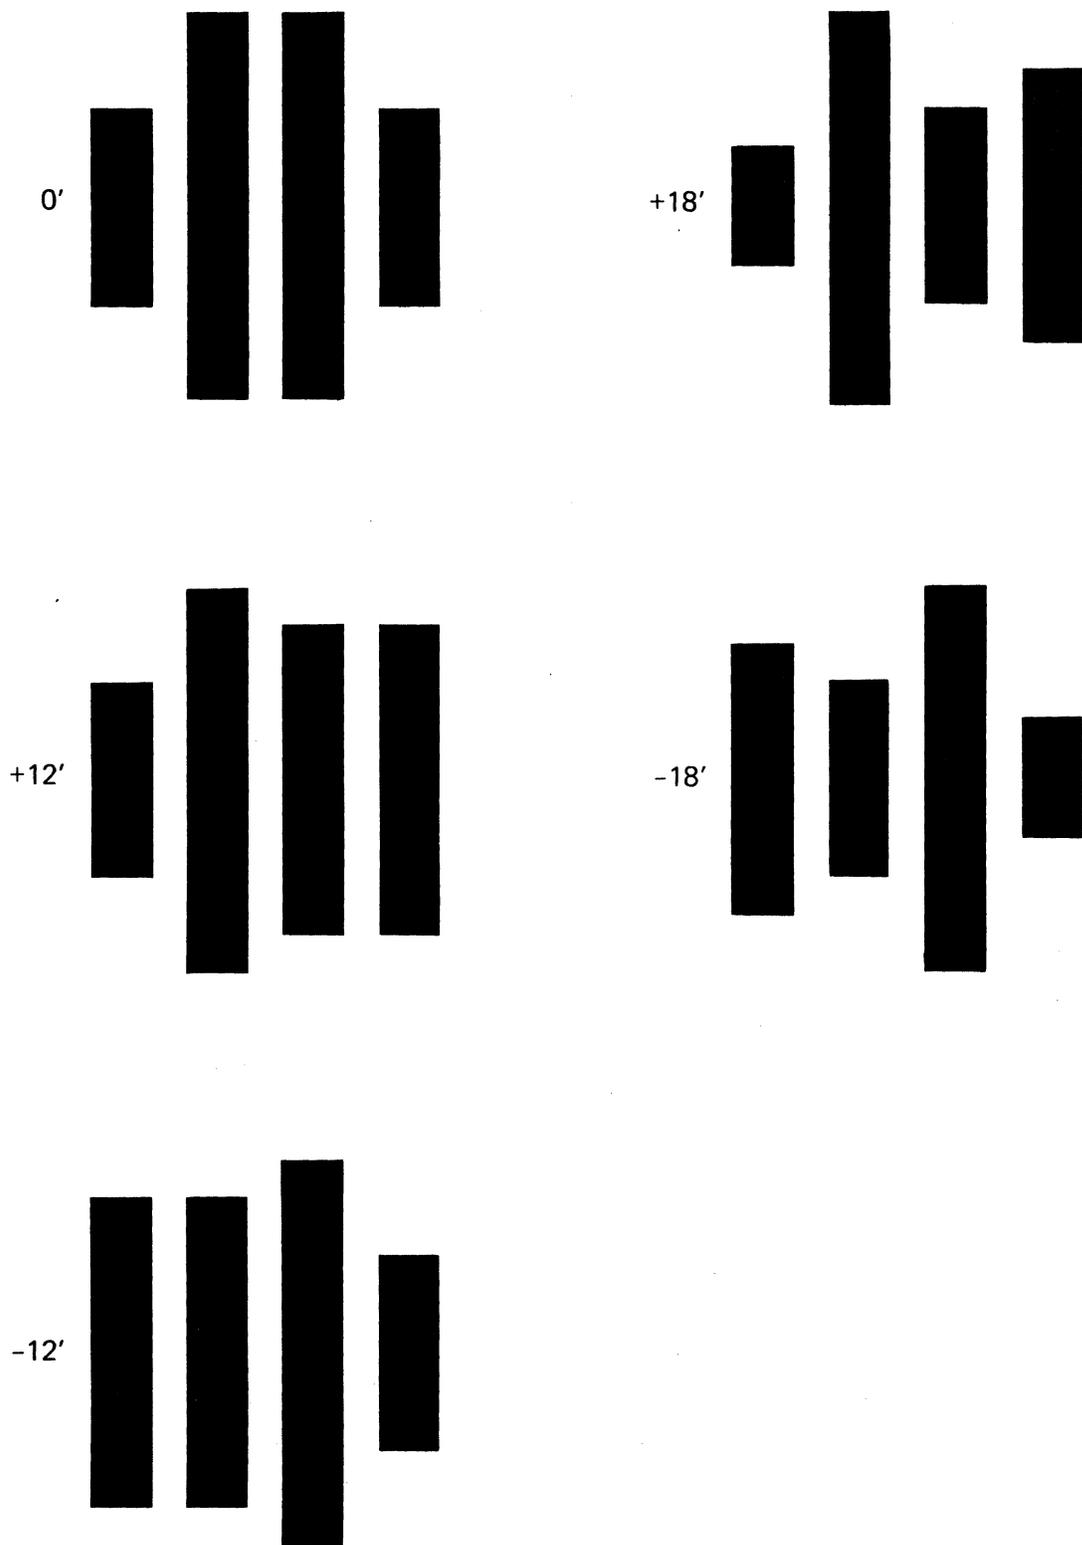

FIGURE 47. AZIMUTH BURST PATTERNS
- d. Compare waveform to Figure 47. If not within the range shown replace the Head Actuator Assembly 2.4.10.1